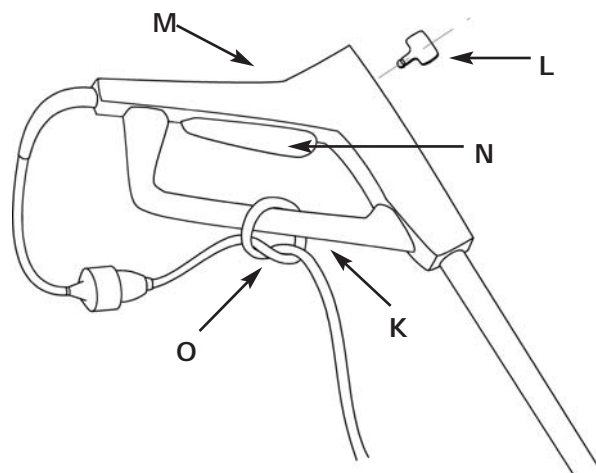

Figure 7
To prevent the snow thrower cord and extension cord from disconnecting during use, tie the extension cord into a loose knot around the lower bar (K) of the handle as shown in next step (Figure 7, Item O).
2. Plug the extension cord into a wall outlet. Insert the key (L) into the slot in front of the hand-grip (M) (Figure 7).
3. Insert the key (L). Squeeze the On/Off switch (N), as shown in Figure 7. Release the switch by releasing grip pressure.